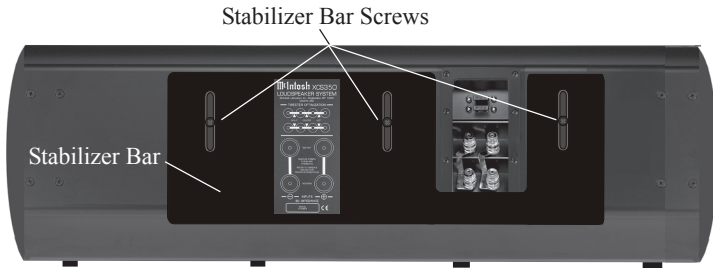

Figure 9
- Loosen, but do not remove, the three screws securing the Stabilizer Bar to the back of the XCS350. Refer to figure 9.